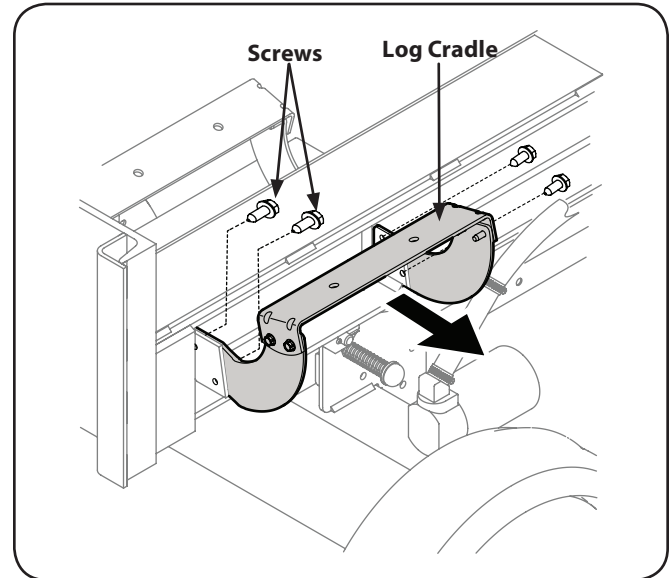

Figure 3-10
3. Place a log cradle assembly against the lower outside surface of the beam flange and secure using the four self-tapping screws previously removed. See Fig. 3-10.